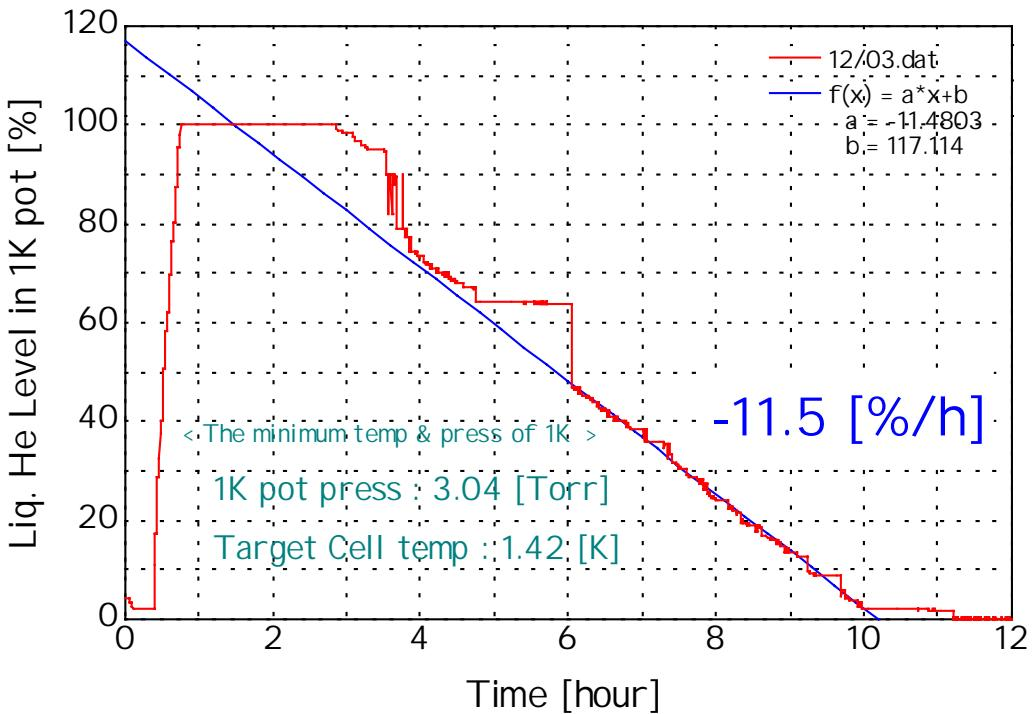

Fig. 6. Result of 1st He consumption test
- Result of He consumption is shown in the Fig. 6, 7
1st test (Fig. 6) : -11.5 [%/h]